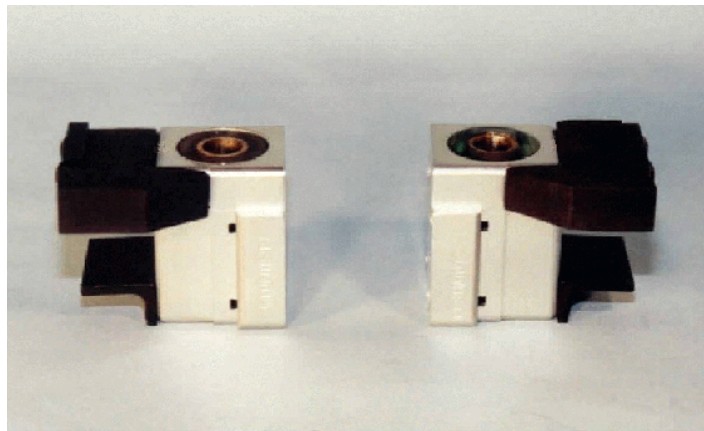

Figure 8.12- Completed shoulder block assembly
10. Repeat Steps 7 through 9 for the Left Shoulder Block (T1SHM014) assembly. The completed shoulder block assemblies are shown in **Figure 8.12**.